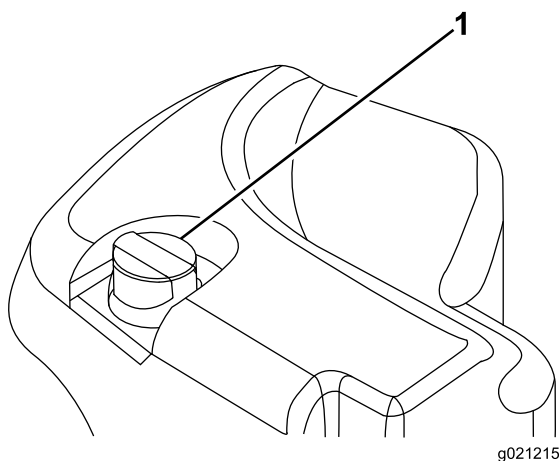

Figure 31
- Mobil EAL EnviroSyn H 46 (US)
2. Clean area around filler neck and cap of hydraulic tank (Figure 31).